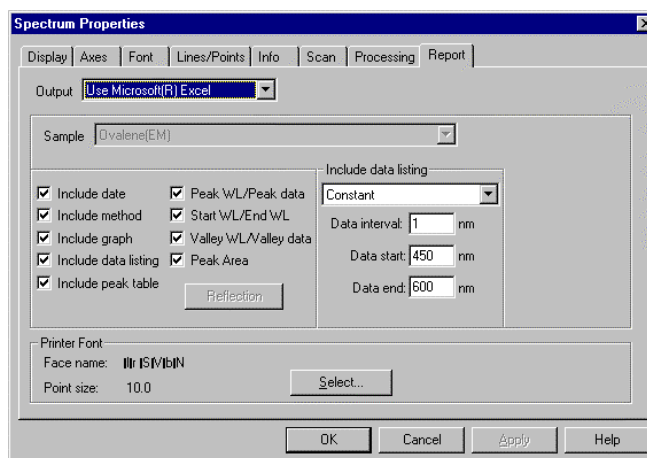

Fig. 6-26
- (1) Click the  (properties) button and select the Report tab. A window as in Fig. 6-26 will open. In Print Method, select "Use Microsoft(R) Excel." Also select the data to be transferred (peak table and data list in case of wavelength scan). Then, click **OK**.